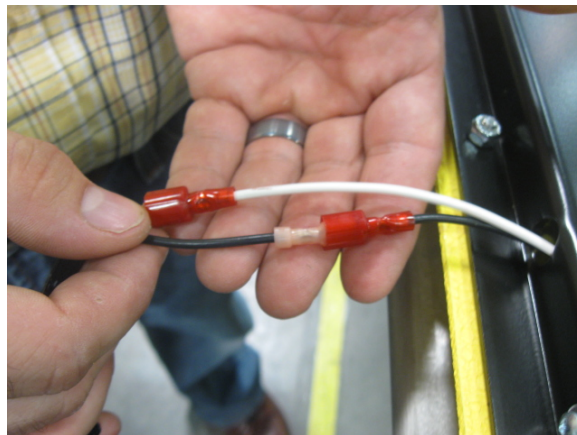

FIGURE 4-27. DISCONNECT BRIDGEPLATE SWITCH CONNECTORS
- 4) Refer to **Figure 4-27**. Disconnect the Bridgeplate Switch connectors (white and black wires).